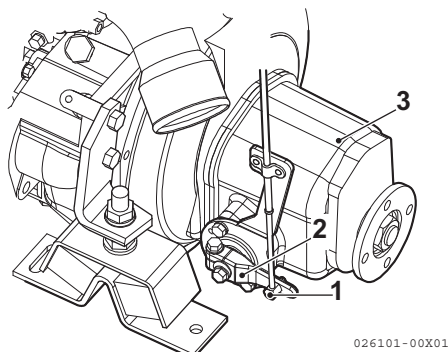
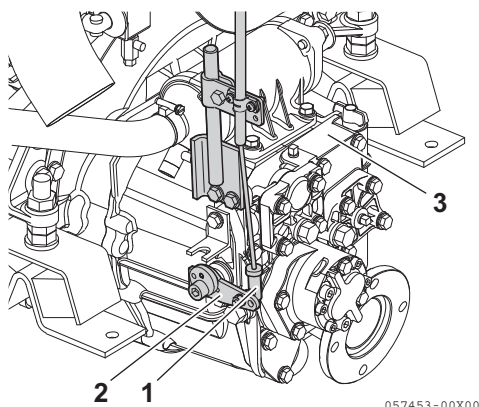

Figure 8
Figure 9
1. Ensure that the remote control lever (**Figure 8, (2)**) or (**Figure 9, (2)**) moves to the correct position when the remote control handle is in the NEUTRAL, FORWARD and REVERSE positions. Use the NEUTRAL position as the standard for adjustment.
2. To adjust, loosen and retighten the cable fitting (**Figure 8, (1)**) or (**Figure 9, (1)**).